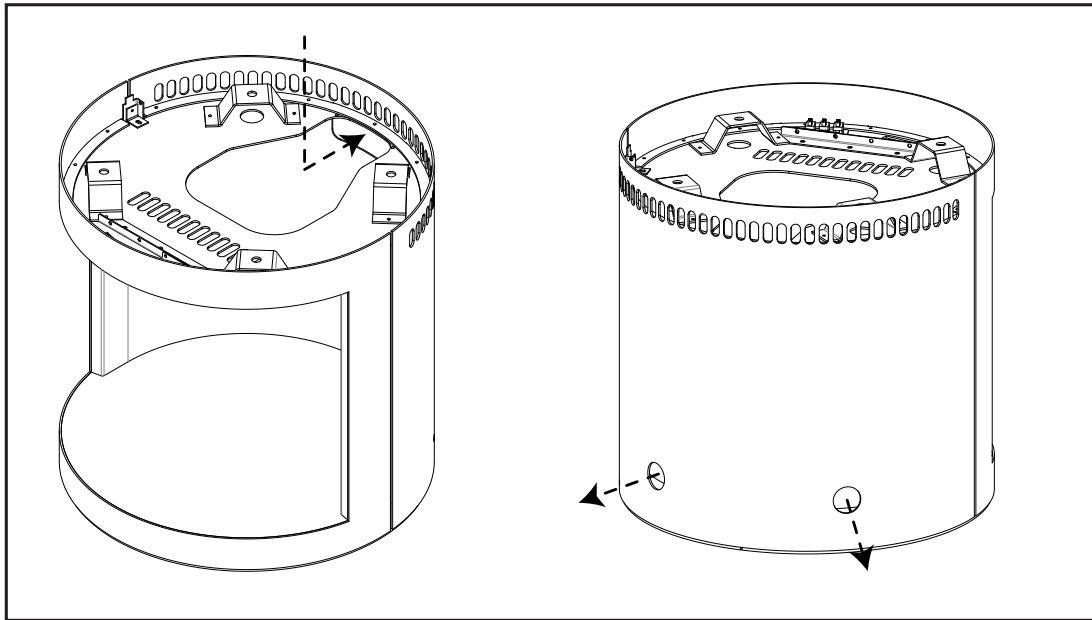

Figure 90: Wood Pedestal Gas & Electrical Rerouting
The wood pedestal has a knockout located at the top of its back wall that will allow the gas and electrical connection to pass through. This knockout allows access to the hollow back wall of the pedestal, which then leads to two (2) openings at the back of the pedestal (see Figure 90).